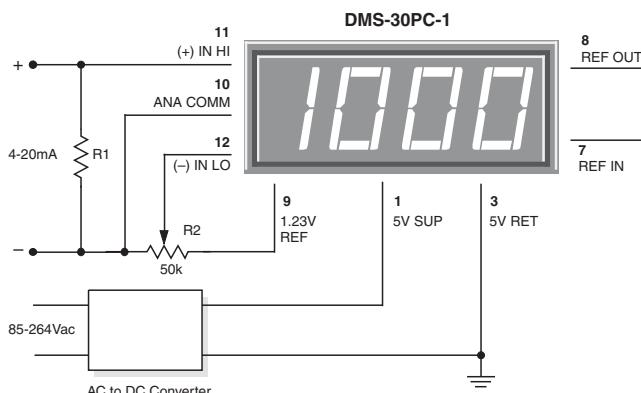

Figure 7. 4-to-20mA Current Loop Operation
**5. Process Control (4-to-20mA) Measurements:** In many common process-control applications, a 4-to-20mA current loop is used to transmit information. Because DMS-30PC meters have such high input impedance, a simple shunt resistor across the meter's input can be used to convert the loop current to a voltage. See Figure 7. The value of the shunt resistor is a function of the scaling requirements of the particular application and can be calculated using the following equation:
To calibrate the circuit of Figure 7, perform the following: